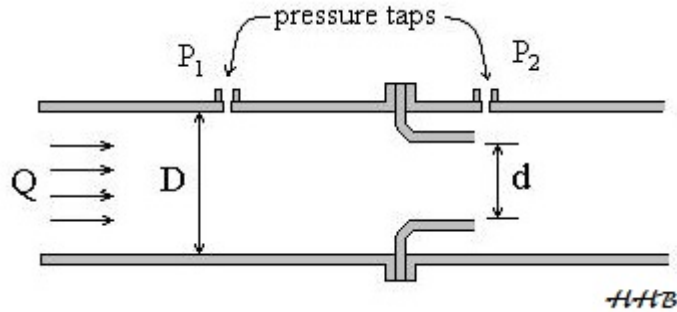

Figure 4. Flow Nozzle Meter Parameters
**Flow Nozzle Meter:** The flow nozzle meter is simpler and less expensive than a venturi meter, but not quite as simple as an orifice meter. It consists of a relatively short nozzle, typically held in place between pipe flanges, as shown in Figure 4.